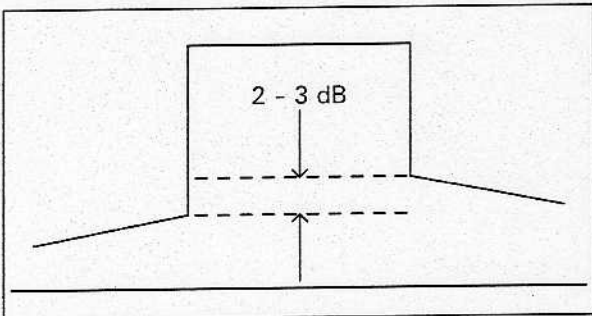

Fig. 26
- l) Replace the network analyser with the digital drive source and connect a spectrum analyser to a suitable directional coupler on the IOT output. Drive the IOT to the beam current comparable to that required for on-air operation. This should produce a response as in Fig. 26 with small asymmetry in the shoulder amplitudes.